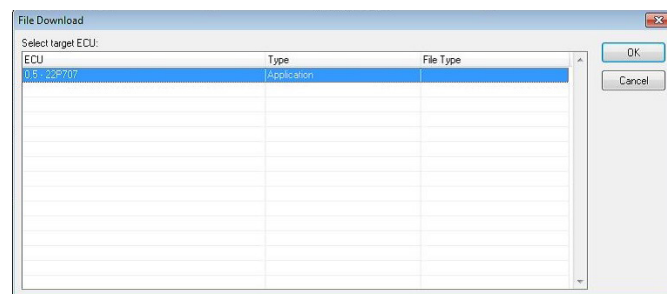

Figure 24. Select Target ECU Screen
6. Select target ECU by clicking on the only ECU shown then click "OK" (Figure 24).